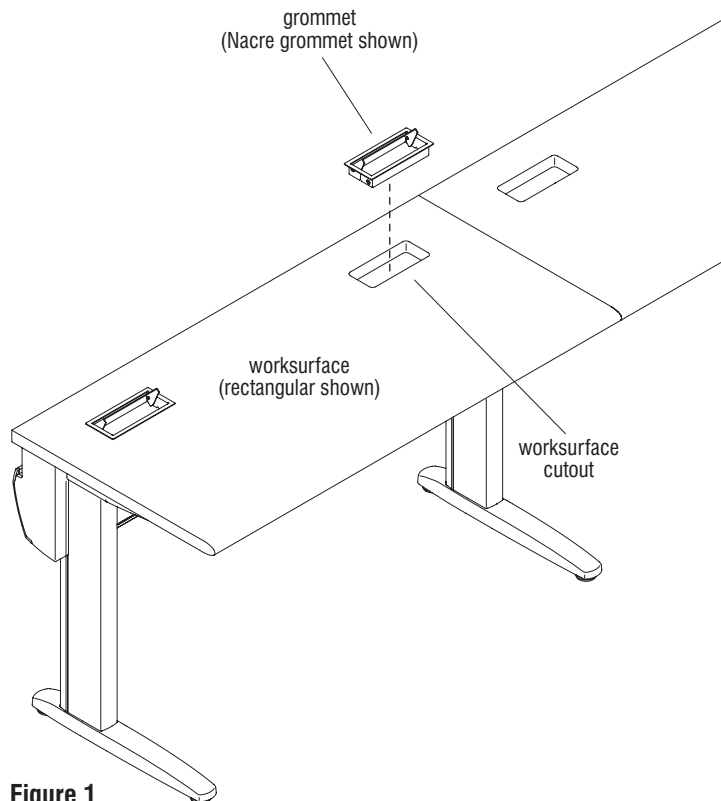

Figure 1
1. Position the Dean or Nacre grommets above the worksurface cutouts with the lid opening towards the user (Figure 1 & Details A or B).
2. Push the grommets into each cutout, tapping lightly with a rubber mallet if required. Use caution to avoid scratching the grommet (Figure 1 & Details A or B).